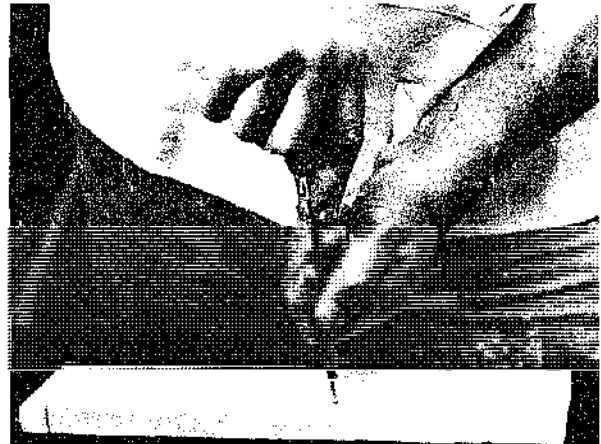

Fig. 12-19 Proper position of hands for driving a screw.
4. Center the tip of the screwdriver in the slot and hold it in line with the direction of the hole as shown in figure 12-19.